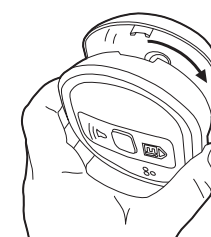

Fig.4
7. Carefully line up the Alarm on the base, gently press home and twist on – see figure 4. (This connects the batteries). The red, yellow and green LEDs will immediately flash in sequence to show they are working. In addition, the icons on the LCD display on the Display models will briefly light up.